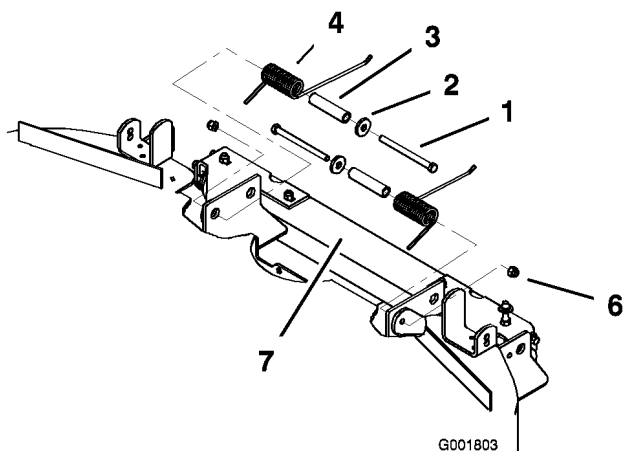

Figure 2
2. Thread a washer, spacer, and spring (with the long end toward the bolt head) onto each bolt (3/8 x 4-3/4 inches) (Figure 2)
4. Secure the roller assembly with the bolt assemblies and 2 nuts (3/8 inch) as illustrated in Figure 2.
Important: Ensure that you install the springs as shown in Figure 2. The springs are opposites of each other, one meant for the right side and one for the left. Ensure that the long end of each spring is on the top of the roller assembly and the short end is angled up against the deck.